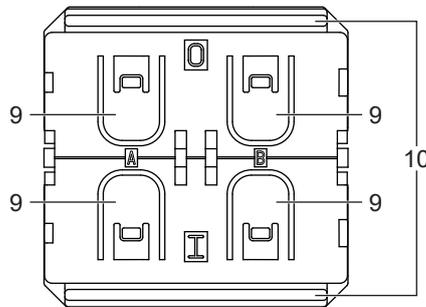

Fig. 5: Operation
- Press three push-buttons (9) and press the activation bar (10) simultaneously 2 x. (fig. 5)